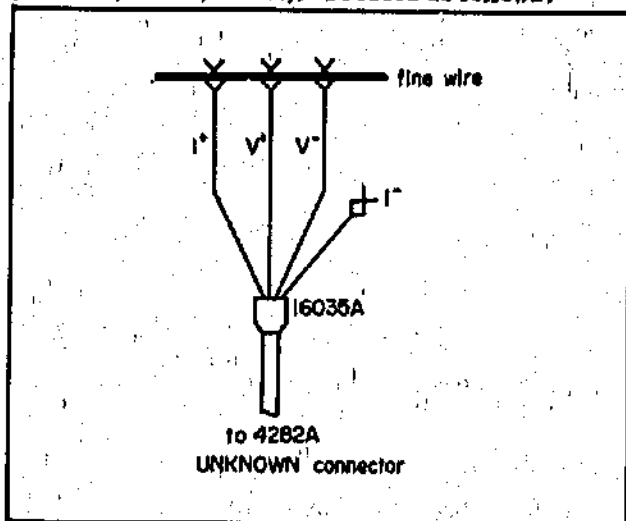

Figure 5-8. Connection for Common Mode Rejection Adjustment.
- b. Connect Model 16035A Test Leads to fine wire as shown in Figure 5-8.